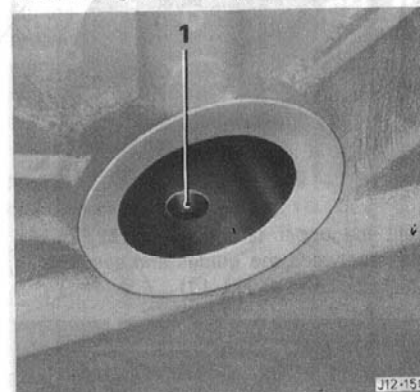

Fig. 9
Remove the remaining bushes from the front cover and distributor drive shaft housing, using Service Tool 18G 1434. Fit new bushes using Service Tool 18G 1434(4) ensuring that the oil feed holes in the bushes are lined up with the holes (1, Fig. 9) in the cylinder block.